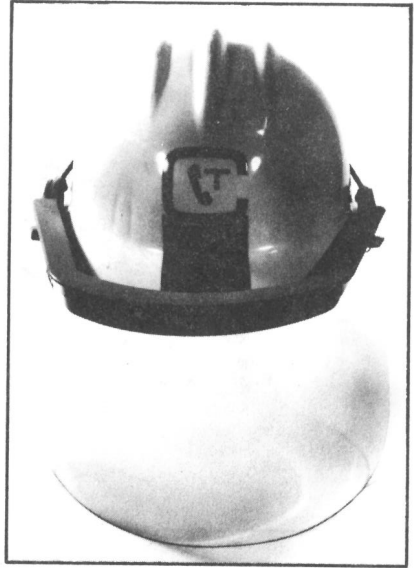

FIGURE 9
**2.06** The safety cap can be worn with a dielectric bracket and visor which are accessory items. When used with safety headgear, this combination gives face-eye protection as illustrated in Figures 9 and 10 for protection against impact.